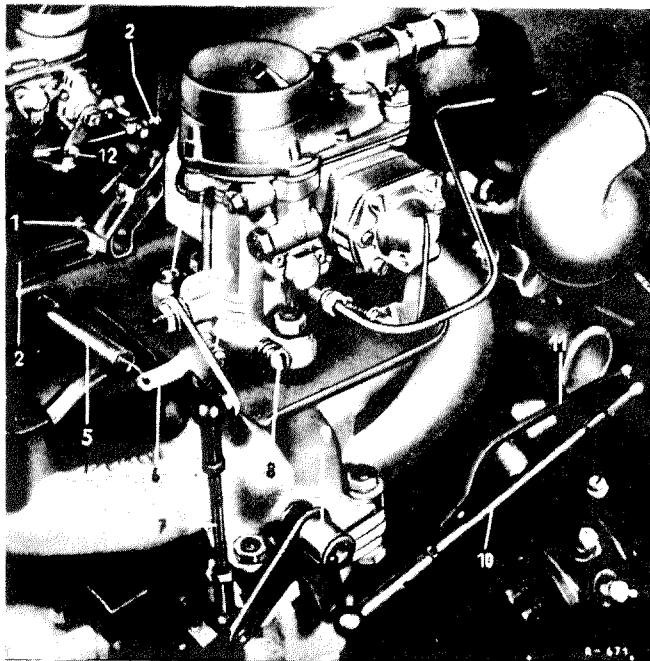

Fig. 30-6/2
The removal and installation procedures for the choke control are essentially the same as described for Model 190 with the difference, however, that on these Models the choke control (2) is not held in rubber bushings but is clamped to the starter housing by means of the hexagon screw (1) (Fig. 30-6/2).